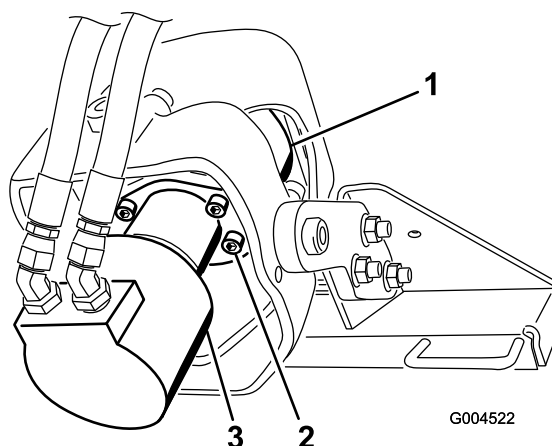

Figure 11
1. Support the drive head over an oil pan (Figure 11).